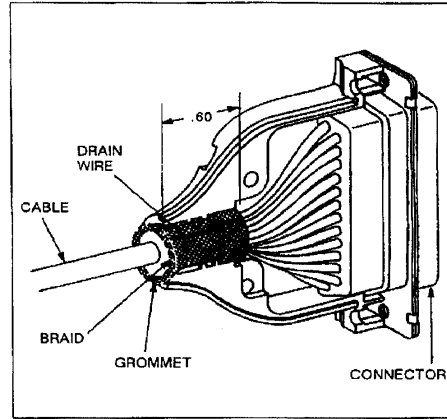

Fig. 13
7. GROMMET ASSEMBLY (Figure 13)